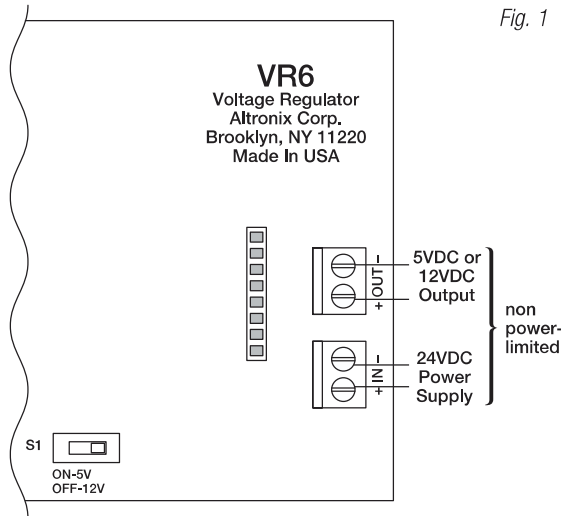

Fig. 1
2. Connect 24VDC power source to the terminals marked [+ IN –] (*Fig. 1 pg. 2*).
4. Connect power distribution module to the terminals marked [+ OUT –] (*Fig. 1 pg. 2*).